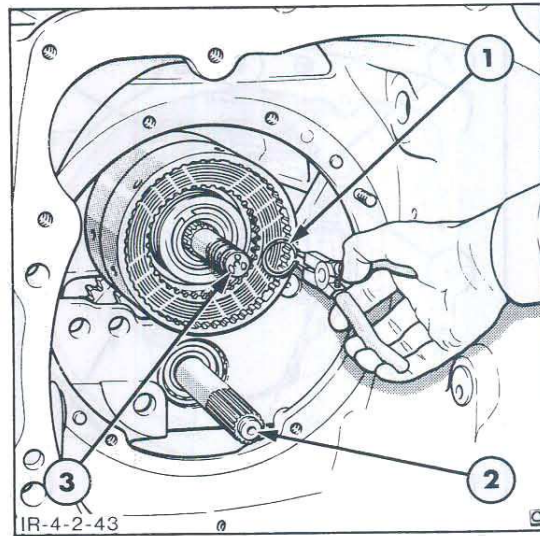

Figure 43
3. Remove the snap ring, Figure 43, then pull the clutch housing from the rear input shaft.
3. Retain the clutch on the shaft by installing the appropriate snap ring, Figure 43.